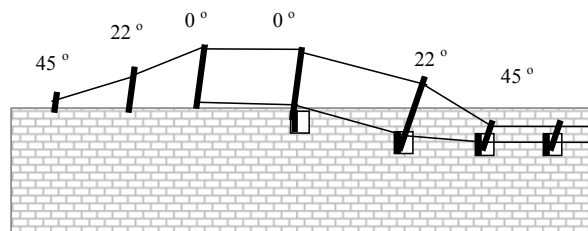

Fig. 2.5 LP Height Difference
2.4.1.11. If LP gets vertical or it goes to the opposite side of the fence it is necessary to provide blending using the possibility to adjust the tilt angle of dielectric consoles according to fig. 2.5.